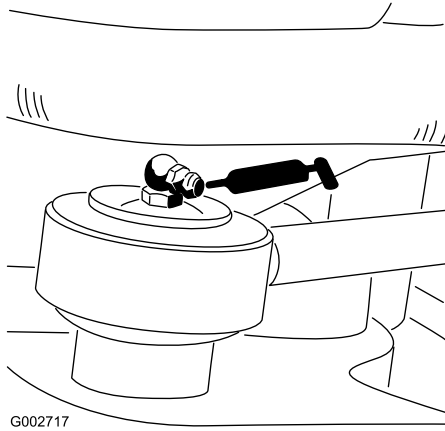

Figure 25
- Steering cylinder rod end (1) (Model 08705 only) (Figure 25)